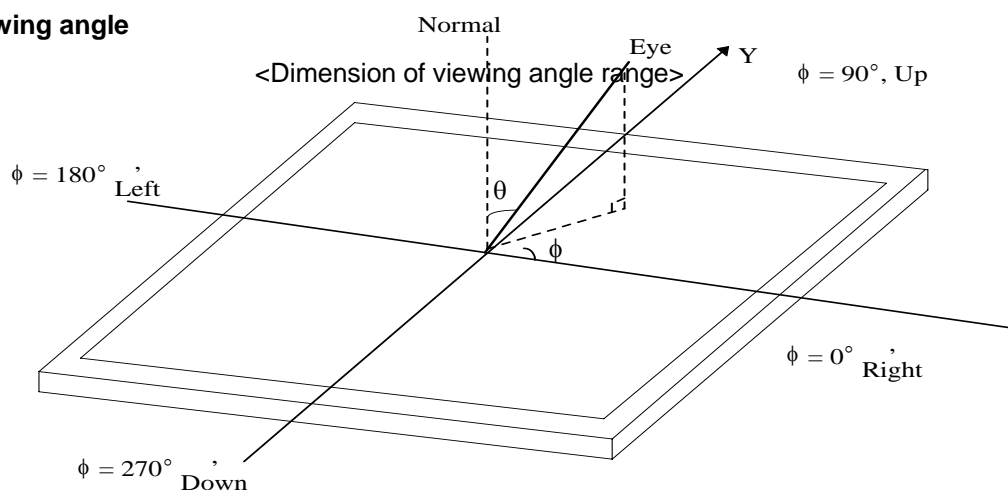

**FIG. 3 Response Time**
| Response time                                 | $T_{rR} + T_{rD}$ | -                          | -                           | 16       | 25  | ms                | Fig 3 |
- Response time is the time required for the display to transition from white to black (rise time,  $Tr_R$ ) and from black to white(Decay Time,  $Tr_D$ ). For additional information see FIG 3.